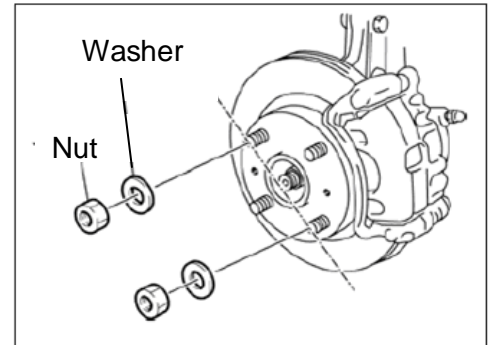

Fig.2 Brake disc fixture
- 1) Lift up the vehicle. Remove the tire and wheel. [Fig.2]
Note : Place them to two points on a diagonal line. [Fig.2]